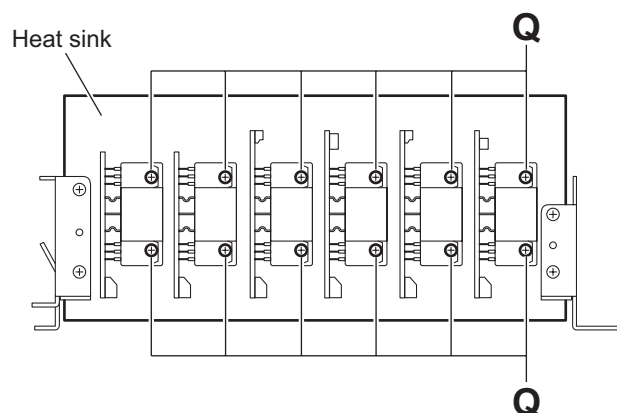

Fig.11
- (3) Remove the twelve screws **Q** attaching the heat sink. (See Fig.11)